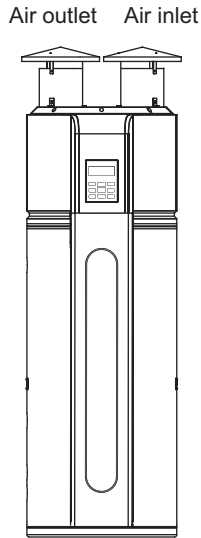

Fig.3-3
- When outdoor installation is required two separate water-proof shields must be installed, otherwise it may cause short-circuit and electric shock because of water ingress. (Fig.3-3)